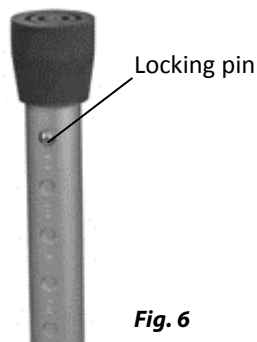

Fig. 6
3. Prior to use always ensure that each locking pin fully protrudes from the selected hole position (Fig. 6).